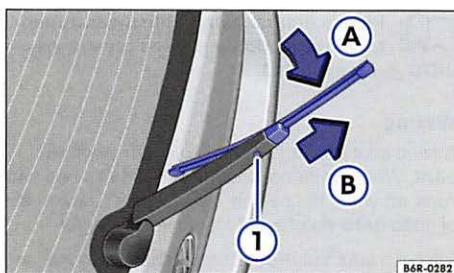

Fig. 136 Changing the rear window wiper blades.
- Press and hold the release button $\Rightarrow$ fig. 136 ①.
- While tilting the wiper blade in the direction of the wiper arm $\Rightarrow$ fig. 136 (arrow A), pull off the wiper blade in the direction of the arrow B. This may require a moderately great force.